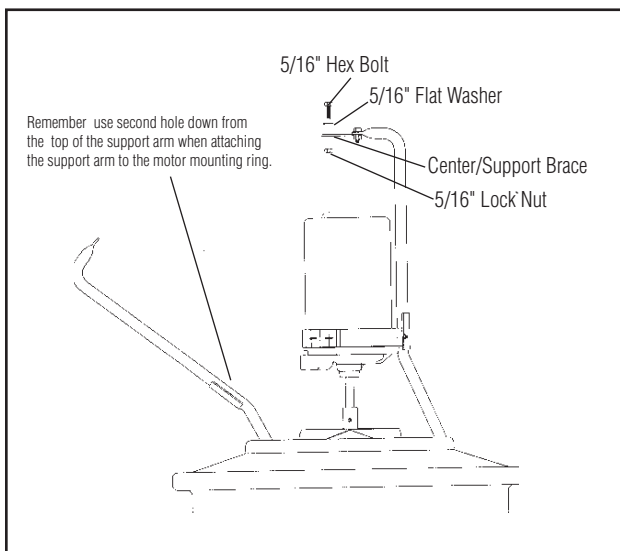

Figure 5
E. Step 5 --see figure 5
- b. Attach the support arm to the mounting ring with: (2) 1/4" flange nuts.
- c. Attach the bottom of the support arm to the support arm brace with: (1) 5/16" lock nut, (1) 5/16" flat washer, and (1) 5/16" hex bolt.
- a. Attach remaining two support arms to the mounting ring using: (4) 1/4" flange nuts. Remember to use the second hole from the top when assembling the support arms to the mounting ring.